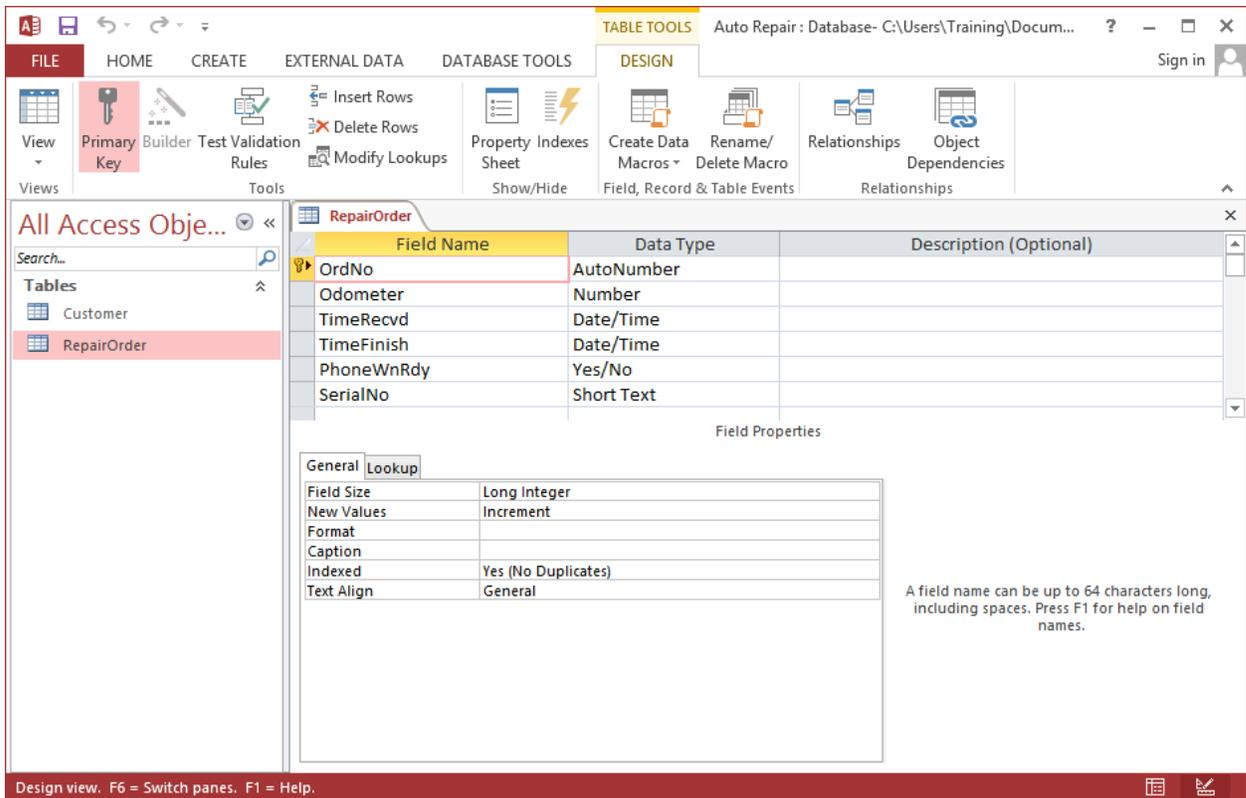
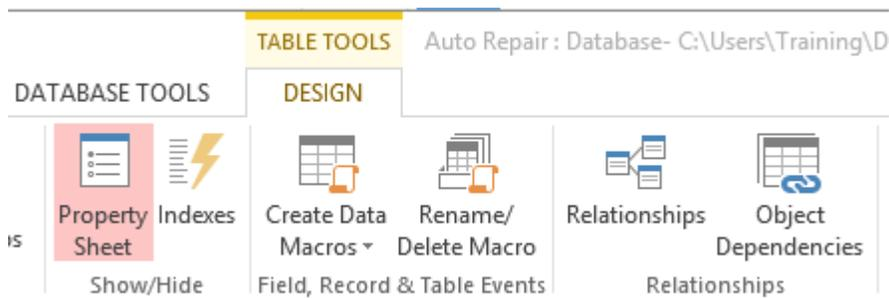
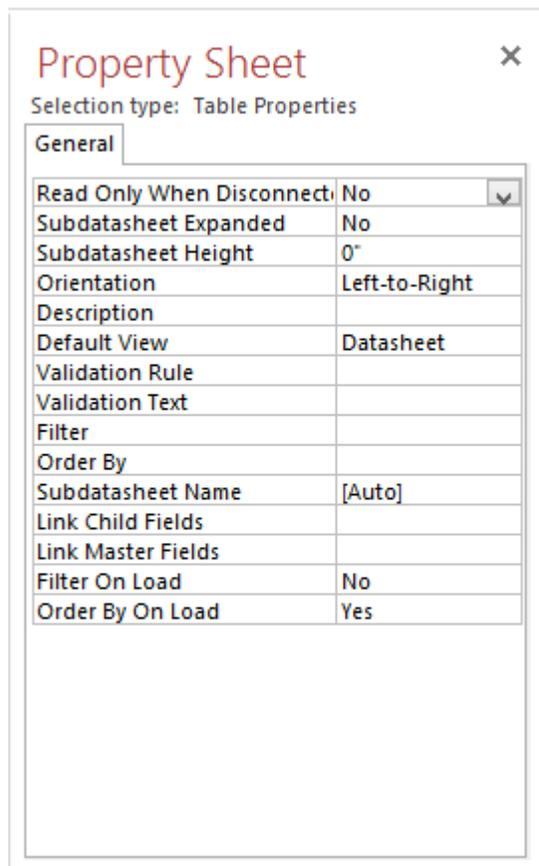

Figure 15: Design View with the design tap in ribbon
Figure 16: Design Tab in the Ribbon Showing the Properties Button
Figure 17: Empty Table Properties Window
1. Open the Table Properties Window: With the Design view open (Figure 15), select **Design** → **Property Sheet** (Figure 16) and a blank Table Properties window appears (Figure 17).